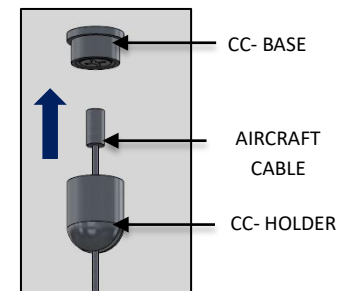

FIG. 13 – AIRCRAFT CABLE INSTALLATION
7. Locate the AIRCRAFT CABLES from the mounting kit. all four (4) will be used in this step.
Feed the AIRCRAFT CABLES through the four (4) CC-HOLDER as shown in FIG. 13. Once the AIRCRAFT CABLE is feed through the CC-HOLDER, secure to the CC-BASE (mounted) at the four (4) non powered mounting locations as per the mounting information chart (page 4).